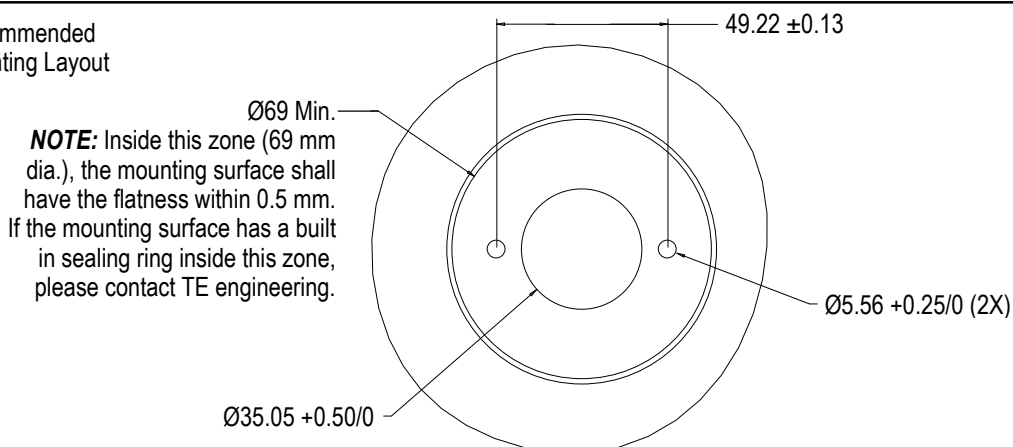

Figure 4
- Added new text to Paragraph 3.6.A. and new artwork and information to Figure 4
The recommended mounting hole pattern is shown in Figure 4.